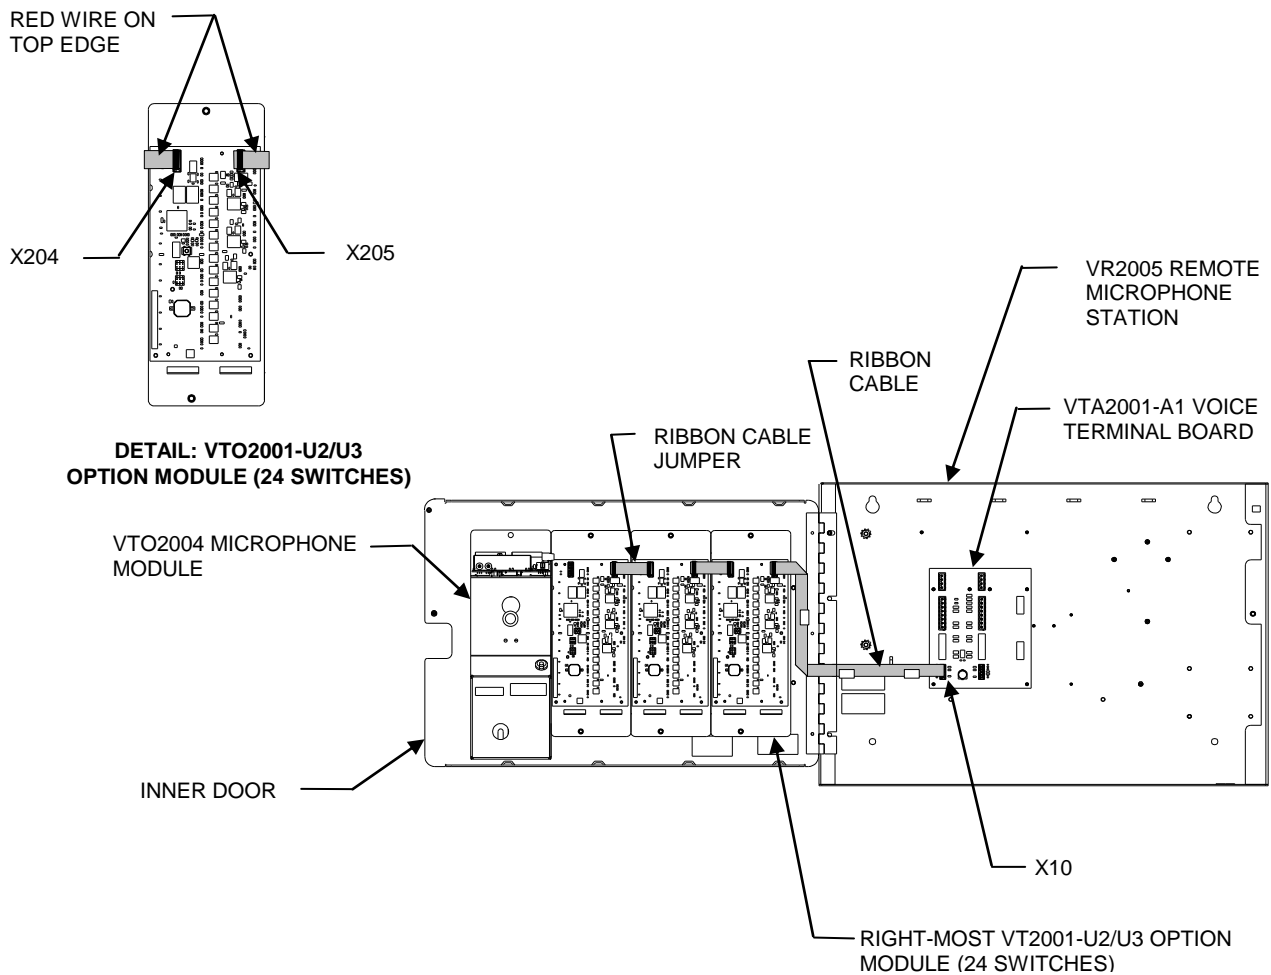

Figure 9
Please refer to Figure 9. Interconnect the VTO2001-U2/U3 Option Module (24 Switches) to the VTA2001-U1 Voice Terminal Board, as follows:
2. Use ribbon cable jumpers to interconnect each of the installed VTO2001-U2/U3 modules in “daisy chain” fashion, as illustrated in Figure 9.